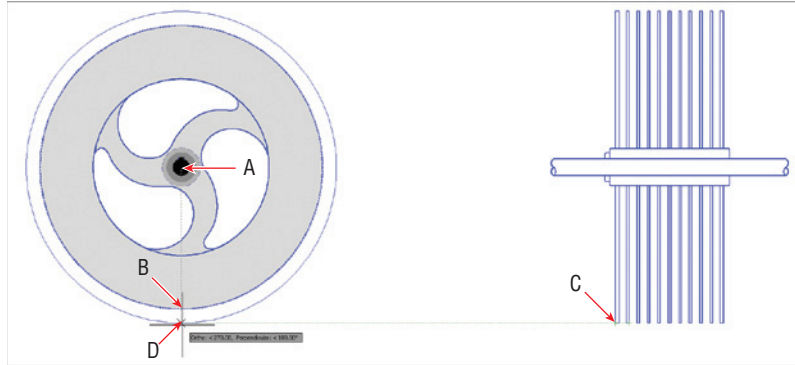

FIGURE 8.10 Scaling up the outer circle of the rotor enlarges its associative hatch.
8. Click the Scale tool on the Modify panel, select the rotor's outer circle, and press Enter. Select the center of the rotor (point A in Figure 8.10) as the base point. The command prompt reads:
Type **R** (for Reference), and press Enter. Pick the reference length by clicking points A and B in Figure 8.10.
9. Hover the cursor over point C, as shown in Figure 8.10. Then bring the cursor back toward point D. When the tracking X appears on the